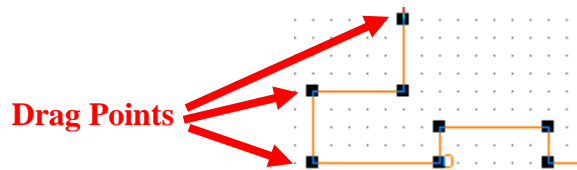

Figure 12: Drag points for connecting wire
6. Wire paths can be modified using drag points. Click on a wire. A number of drag points will appear on the wire as shown in Fig. 12. Click any of these and drag to modify the shape. You can also add or remove drag points to give you even more control over the wire shape. To add or remove drag points, press CTRL and click on the location where you want the drag point added or removed.